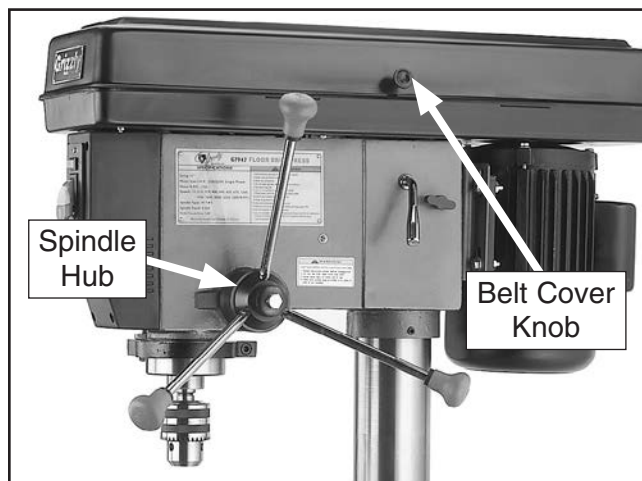

Figure 22. Downfeed handles and belt cover knob installed.
23. Thread handles into spindle hub, as shown in **Figure 22**, and tighten.
24. Remove screw that fastens belt cover in place and replace with belt cover knob (see **Figure 22** for location).